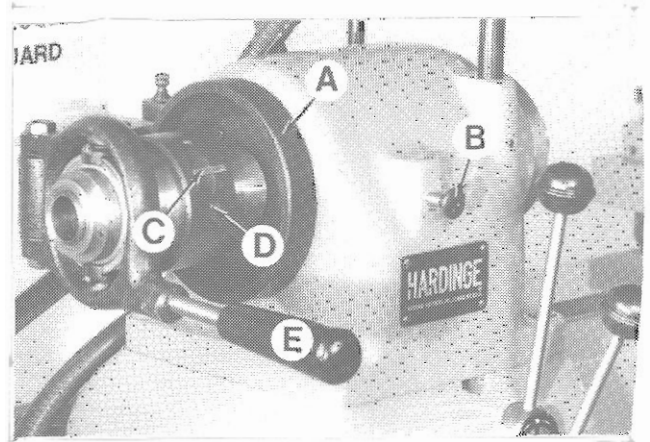

Figure 3.1 - Collet Closer
2. Open latch by pressing down at "C", Figure 3.1.
5. Move lever "E". Figure 3.1, to extreme left (closed position). Set machine for "Free Spindle" and turn spindle handwheel "A", Figure 3.1, while pushing in on spindle lock pin "B" until pin enters a pulley notch. Turn shell guard "D" toward operator until collet is drawn up as far as it will go without forcing.